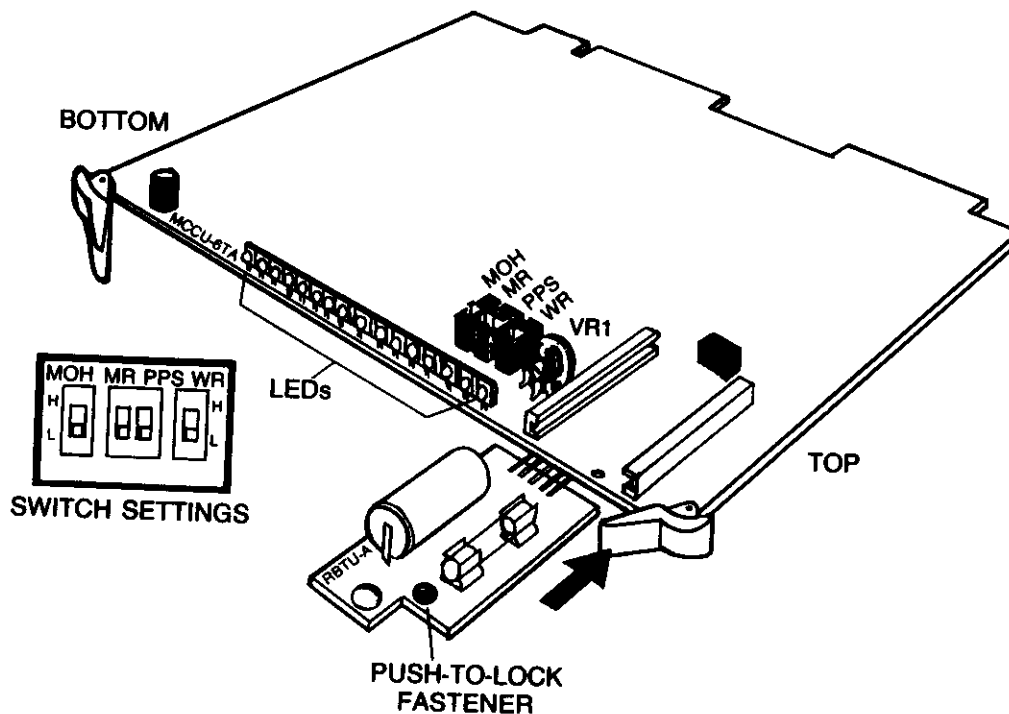

Figure 5-9 MCCU-6TA PCB, EK-616
5.08 The Main Common Control Unit (MCCU-6TA) PCB contains four option switches, guides for a battery PCB, a potentiometer and various LEDs (Figure 5-9). It also contains a music IC chip to provide MOH. If a different music source is desired, then a customer provided music source must be installed and the MOH dip switch on the PCB must be in the H position.
5.11 The MCCU-6TA PCB is equipped with guides designed for the installation of a battery PCB designated RBTU-A (Figure 5-9). The RBTU-A PCB contains a lithium non-rechargeable battery that protects the programmed memory during a power failure. The fuse on the RBTU-A PCB can be replaced while the system is operational and without removing the MCCU-6TA.
- Press the push-to-lock fastener (Figure 5-9). This action secures RBTU-A to the MCCU-6TA.